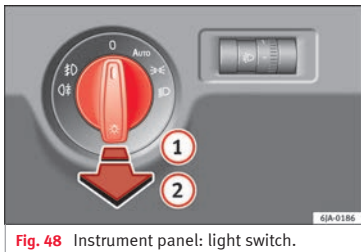

Fig. 48 Instrument panel: light switch.
- First turn the light switch »» Fig. 48 to position »» or »» or **AUTO**.
- Pull on the light switch to position ①.
- First turn the light switch »» Fig. 48 »» page 64 to position »» or »» or **AUTO**.
- Pull on the light switch to position ②.